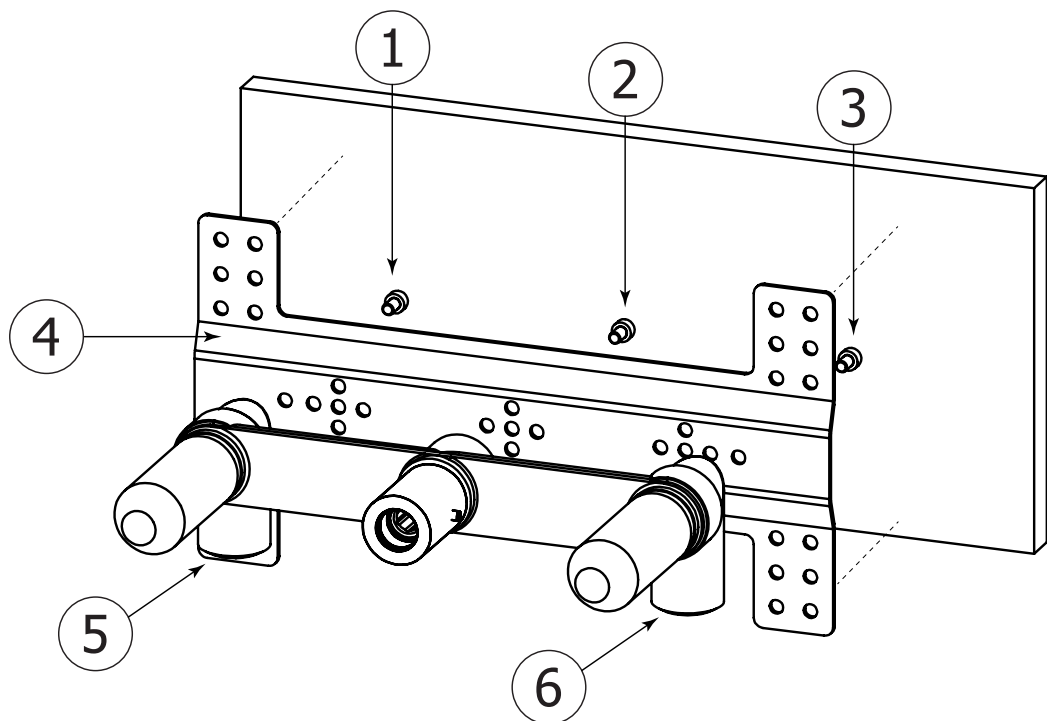

Fig. 2
Fig. 2: To carry out an optimal positioning, it is necessary to perform a test assembly before placing the valve in the wall, while it is still possible to regulate the depth of the wood support. Fix the valve housing on appropriate plate (4) with the three screws (1-2-3) and afterwards screw the wood support on the horizontal uprights at the desired height.